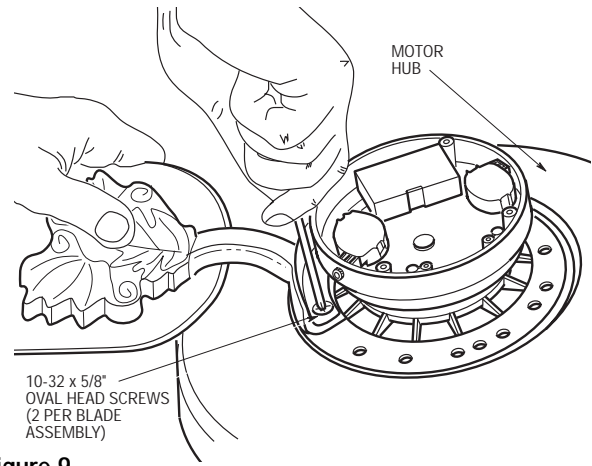

Figure 9
- 14. Attach one blade assembly to the motor hub using two 10-32 x 5/8" oval head screws (supplied) (Figure 9). Do not tighten completely at this time. Install remaining blade assemblies in the same way. Gently snug all flange screws to the motor hub, working around the hub in a clockwise sequence. Next, securely tighten all flange screws, again working in a clockwise sequence. Failure to follow this procedure could result in fan wobble. This completes the blade installation.